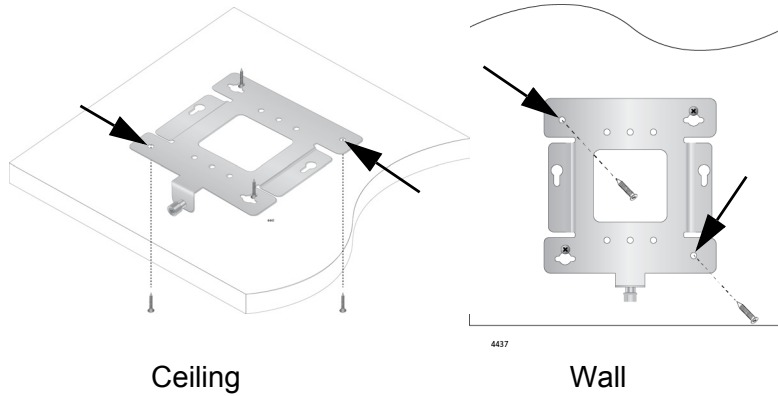

Figure 10. Pre-Drilling Holes on Mounting Bracket
5. Secure the physical position of the mounting bracket by pre-drilling holes through the two existing open bracket mounting holes in the opposite corners from the key-hole slots. Refer to the arrows in Figure 10.